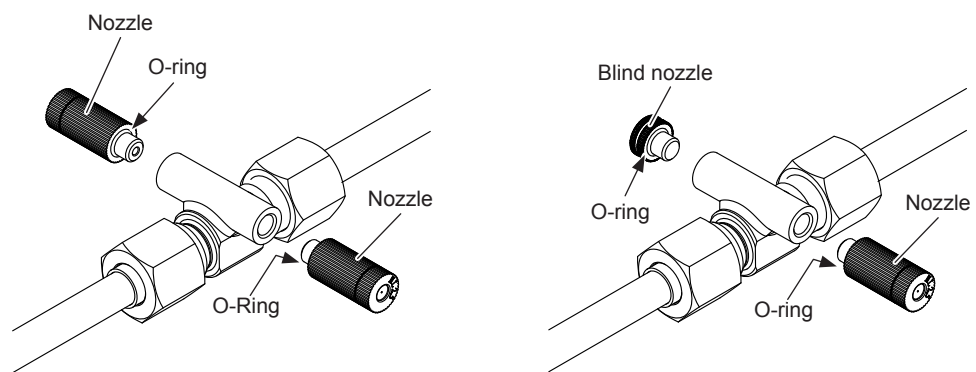

Fig. 22: Inserting the nozzles
3. Screw the nozzles into the nozzle adapters of the Condair Vita Line nebulizer as shown in Fig. 22 and tighten the nozzles by hand.
**Important:** Nozzle openings that face to the wall must be closed with a blind nozzle (see Fig. 22 right).